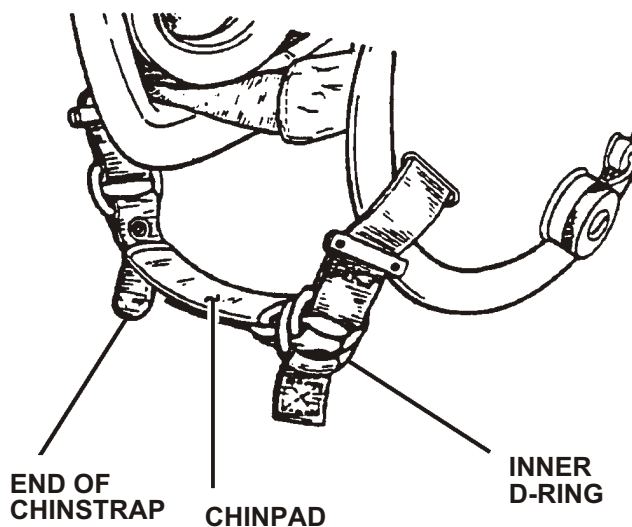

Figure 2-4. Fastening Chinstrap
7. If not already done, insert the end of the chinstrap (Figure 2-4) through the D-ring on the right side (as worn) and fasten the snap.
8. Have the aircrew member fasten the chinstrap as follows (Figure 2-4):
9. Slide the chinpad (Figure 2-4) to the center of the chinstrap. Using needle and thread, tack the chinpad in place to prevent slippage.